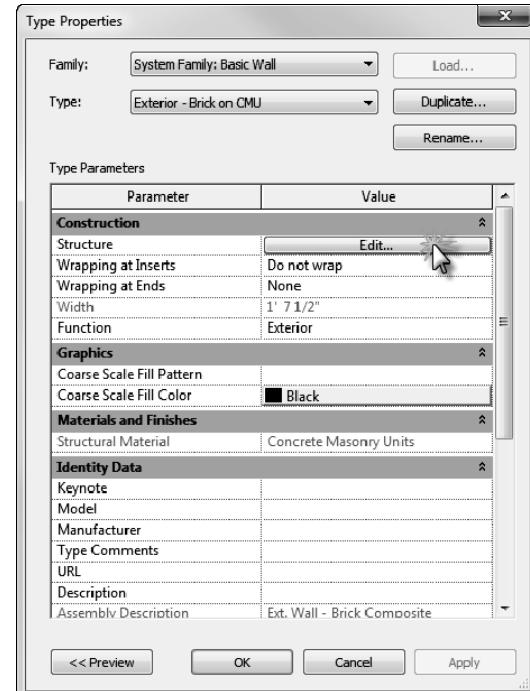

FIGURE 3-2.4 Type Properties
- You should be in the *Type Properties* dialog box. Click the **Edit** button next to the *Structure* parameter (Figure 3-2.4).